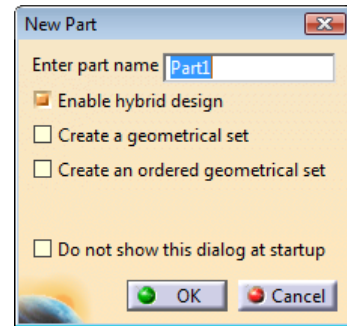

Figure 2-35 The **New Part** dialog box
2. Choose **Close** from the **File** menu to close the **Product1** file. Next, choose **Start > Mechanical Design > Part Design** from the menu bar; the **New Part** dialog box is displayed, as shown in Figure 2-35.